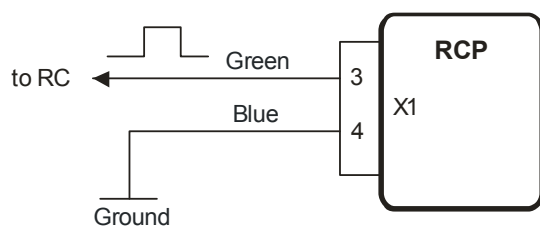
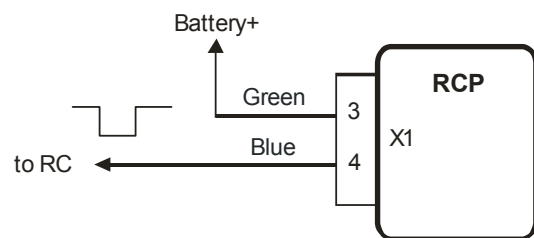

Figure 2
Figure 3
- The fig.2 presents the scheme to turn the heater on by the impulse of positive polarity. The fig.3 presents the scheme to turn the heater on by the impulse of negative polarity.